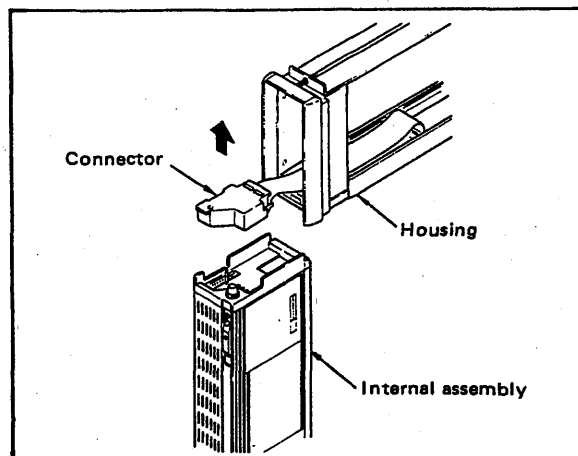

Figure 5-2-3. Separating Internal Assembly From Housing.
- ③ To separate the internal assembly from the housing, disengage the connector while placing the instrument front downward as shown in Fig. 5-2-3.